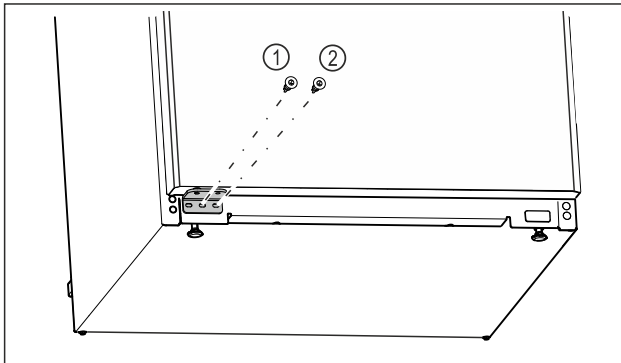

Fig. 18
- ▶ Tighten the middle screw of the swap bearing block Fig. 18 (1) with a Torx 20 screwdriver.
- ▶ Tighten the inner screw of the swap bearing block Fig. 18 (2) with a Torx 20 screwdriver.